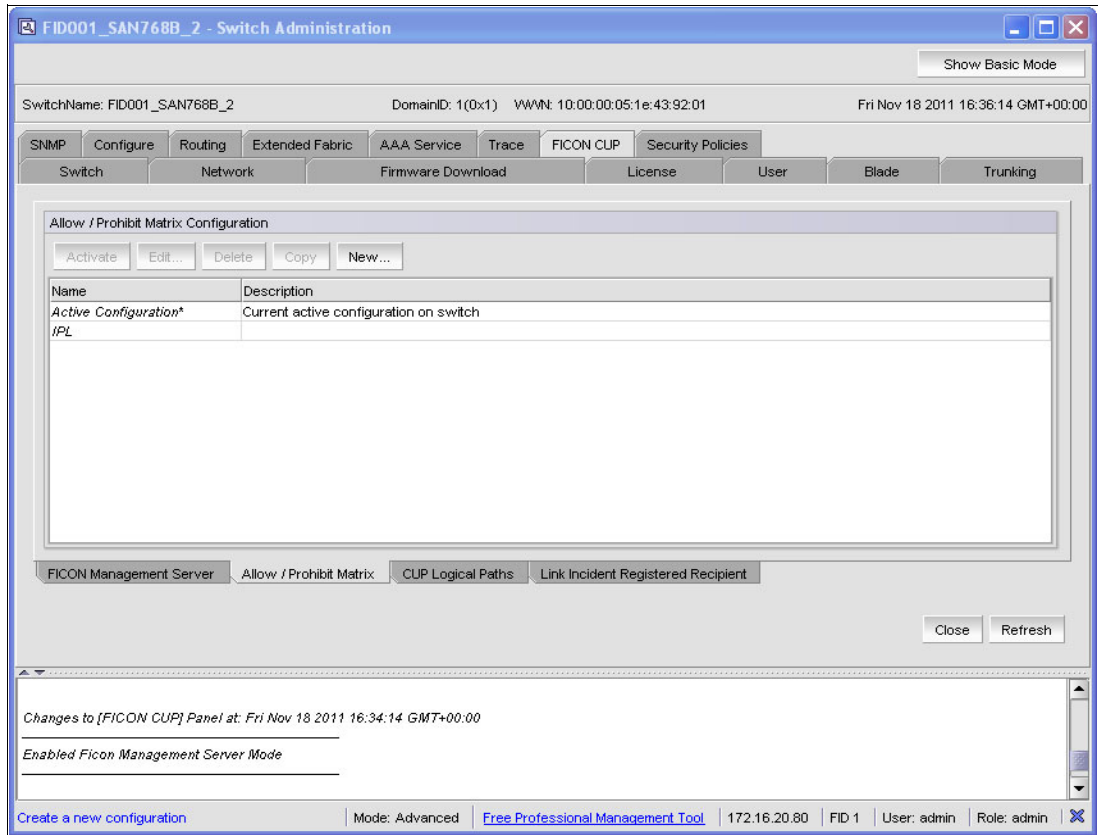

Figure 8-47 Allow/Prohibit configurations
4. Select the **CUP Port Connectivity** tab in the lower-left corner of the FICON CUP tab. The window shown in Figure 8-47 on page 289 opens.